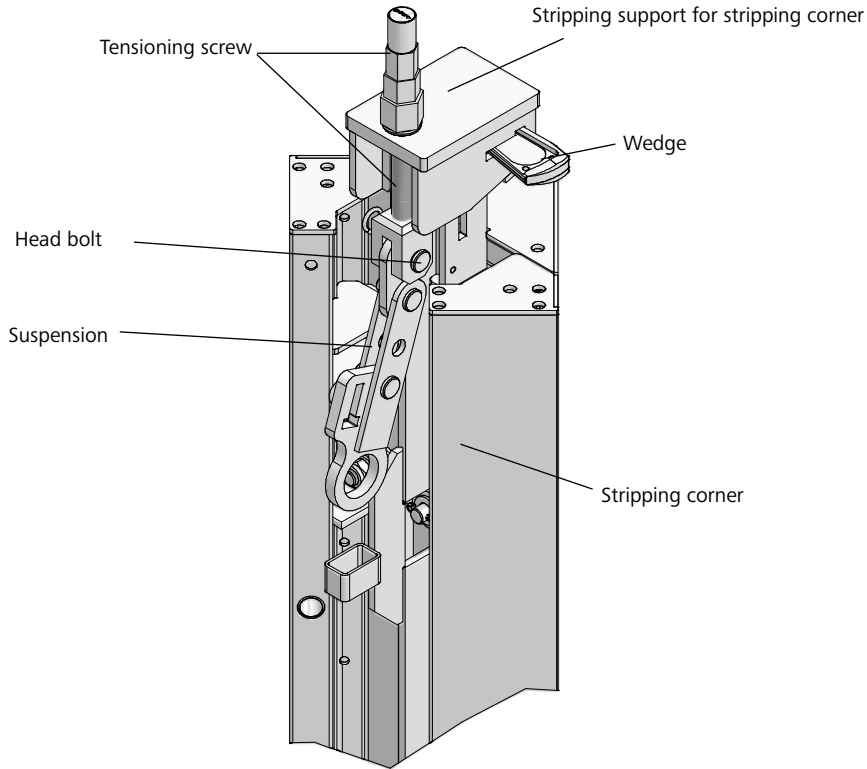

Fig. 49.2
1. Place the stripping support onto the connecting device at the top of the stripping corner. Make sure the suspension is inclined downwards (Fig. 49.2).
2. Connect the stripping support to the stripping corner with the head bolt 16/40 and cotter pin 4 that are both integrated into the tensioning screw of the stripping support (Fig. 49.2).
3. Lock the stripping support to the stripping corner by driving the stripping corner's wedge with a few hammer blows into the opening of the stripping support (Fig. 49.2).